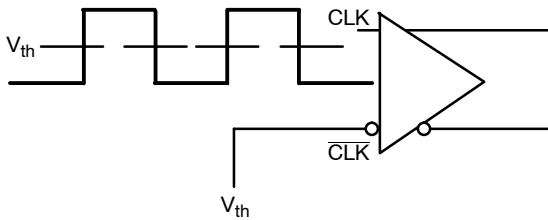

Figure 13. Differential Input Driven Single-Ended
**DIFFERENTIAL INPUT DRIVEN SINGLE-ENDED** (See Figures 13 and 15)